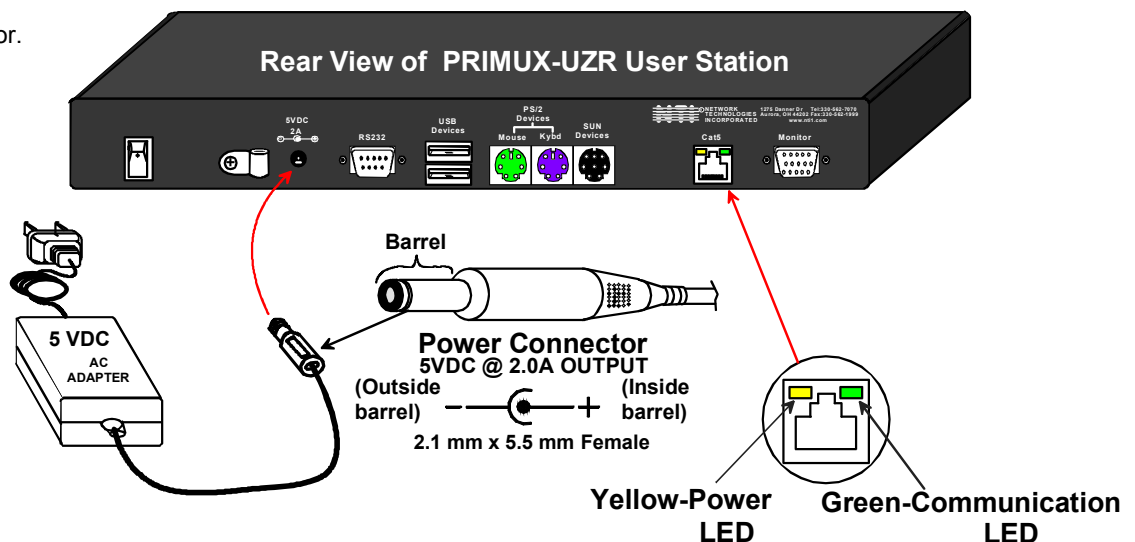

Figure 9- Connect the AC adapter to the User Station
1. Connect the AC adapter power connector to the 5VDC port on the User Station (see Figure 9). Plug the AC adapter into a power outlet. The yellow LED on the RJ45 connector of the User Station should illuminate, indicating that a proper power connection has been made to it.
**FYI:** The green LED on each RJ45 connector will illuminate anytime data traffic is passing between the Host Adapter and User Station, indicating proper CAT5 cable connection and communication. (See Fig. 9)